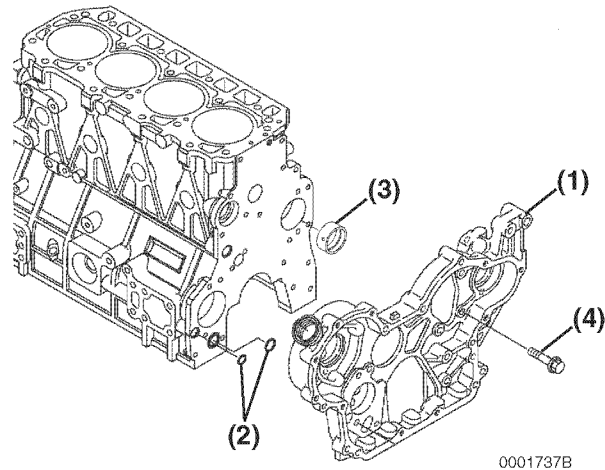

Figure 6-95
- Remove the bolts (**Figure 6-95, (4)**).
- Remove the gear case (**Figure 6-95, (1)**) or front plate from the cylinder block. Thoroughly clean all old sealant from the mating surfaces.
- Inspect and measure the camshaft bushing. See *Camshaft* on page 6-11 for the service limit. If damaged or worn beyond service limits, remove the camshaft bushing (**Figure 6-95, (3)**).
- TNV94 - TNV106:** Remove two O-rings (**Figure 6-95, (2)**).